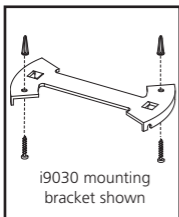
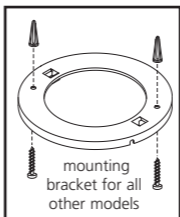
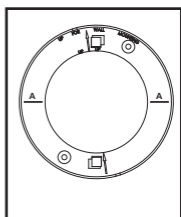
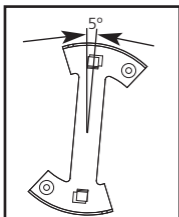

FIGURE 5
FIGURE 5A
FIGURE 6
FIGURE 6A
3. After selecting the proper smoke alarm location as described in section 1, attach the mounting plate to the ceiling as shown in FIGURE 5 and FIGURE 5A. For wall mounting see FIGURE 6 and FIGURE 6A. Place mounting plate on the wall as described in the mounting illustrations. Use the screws and anchors provided to secure the mounting plate (use 3/16" drill bit for anchor holes).